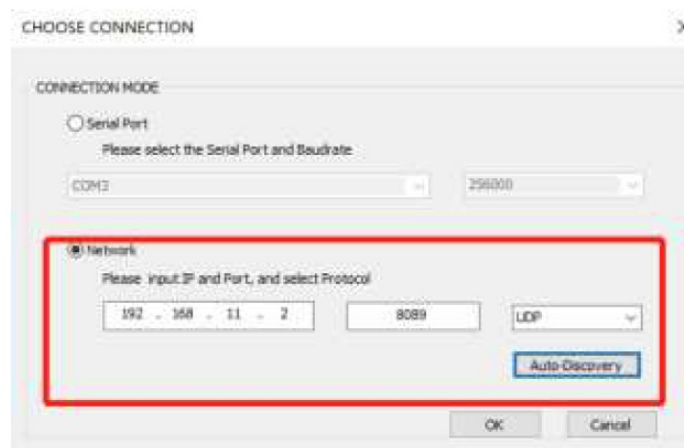
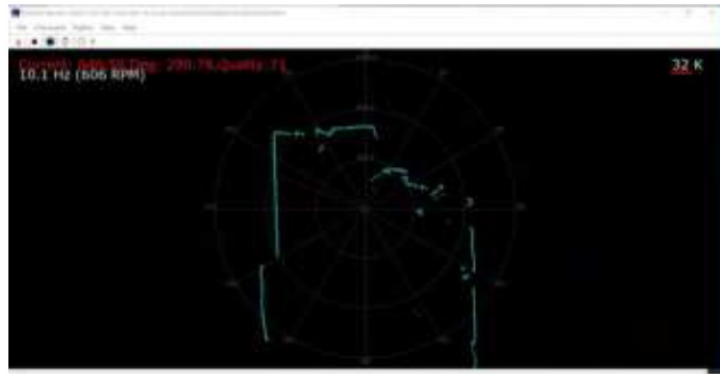

Figure 3-3 Selection Interface of Lidar Connection
Figure 3-5 Point Cloud Display Interface
- Click “OK” in Figure 3-3 and then click to scan point cloud, as shown in Figure 3-5. For SDK, please refer to start Scan Express and grab Scan Data Hq.